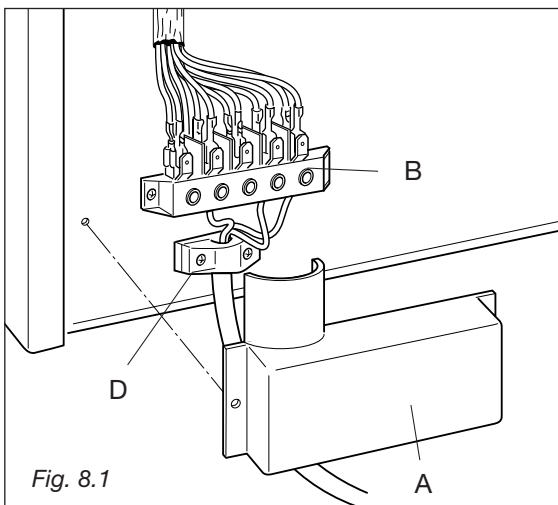

Fig. 8.1
- Remove the two screws that hold shield **A** behind the cooker. (Fig. 8.1).
- Fitted with a 5-pole terminal block, position the U bolts onto terminal block '**B**' (fig. 8.1) according to the diagrams in figs. 8.2 - 8.3.
- Connect the phase and earth cables to terminal **B** according figure 8.1.